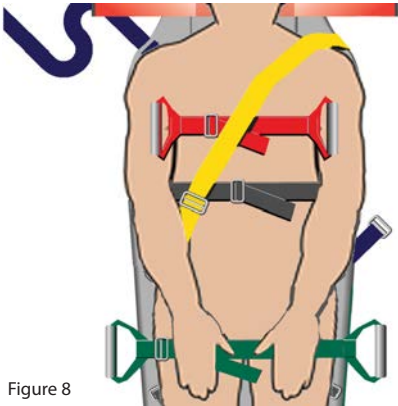

Figure 8
- 4. **Figure 8 / Groin Harness**
- 4a. **Figure 8 / Groin Harness**